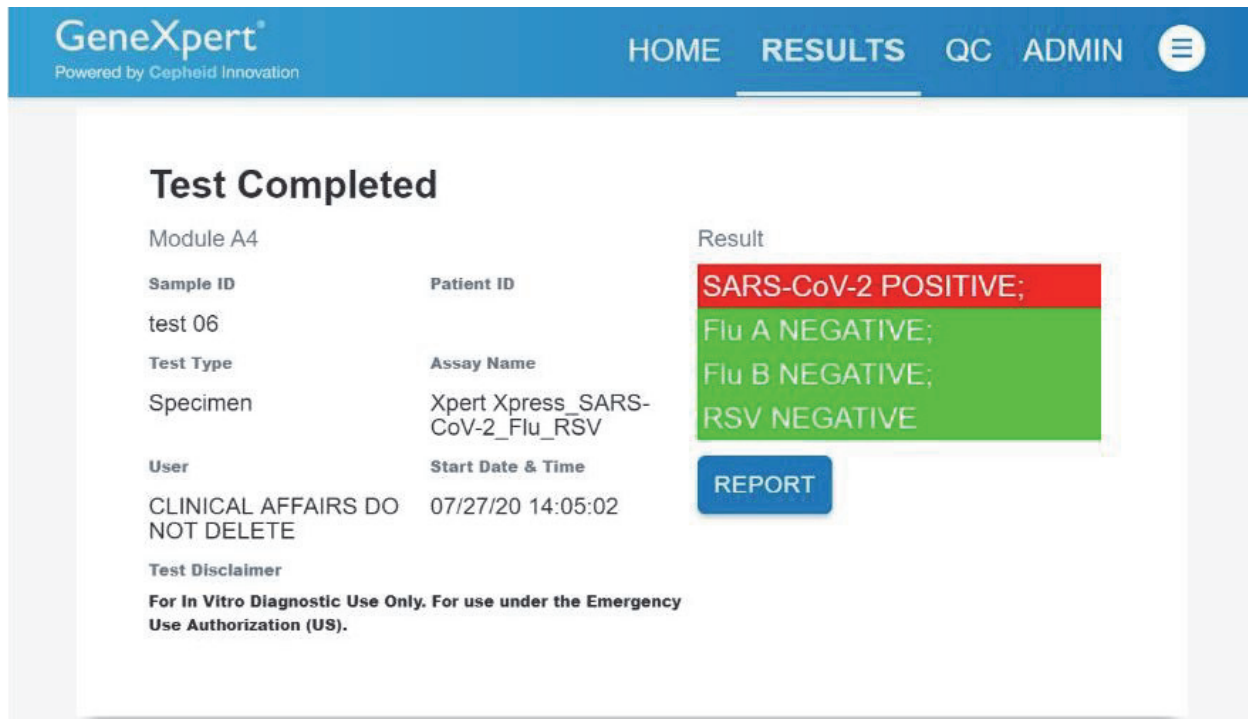

Figure 33. Test Result Screen (Example)
2. Touch the desired result to open the Test Result screen (see Figure 33).